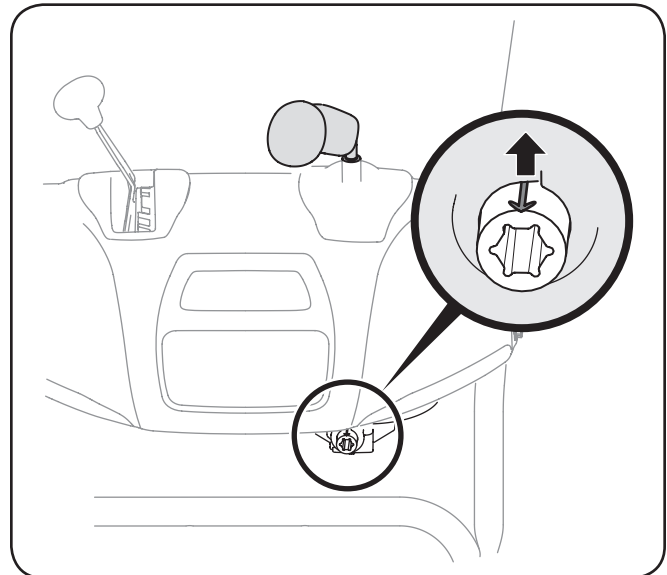

Figure 3-7
5. Rotate the joystick to the one o'clock position so that the silver indicator arrow on the pinion gear below the control panel faces upward. See Fig. 3-7.